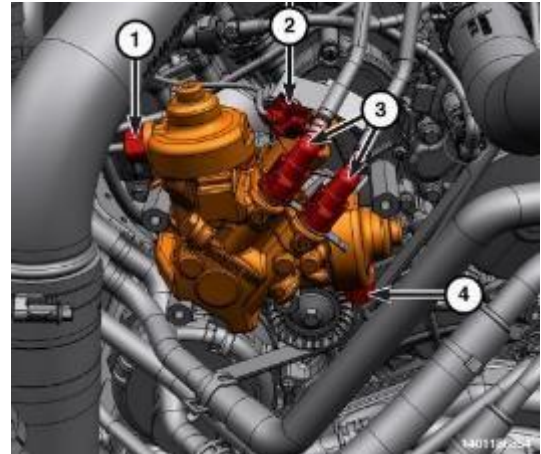

Figure 9 – Pump Connections
- 16. Disconnect the fuel injection pump wiring harness connector (2) (Figure 9).
23. Disconnect the low-pressure fuel supply and return lines (3) (Figure 9).
24. Remove the fuel rail supply tubes (1, 4) (Figure 9).